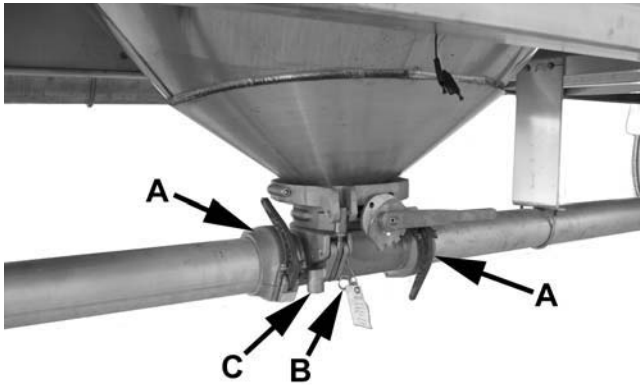
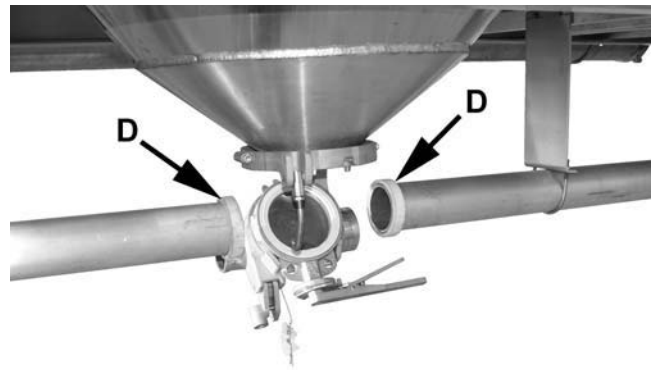

Figure 8-5 – Remove Discharge Valve
Figure 8-6 – Discharge Valve Seals
3. Open and remove clamps (A). See Figure 8-5. Slide seals (D) completely off the discharge valve and onto the discharge lines. See Figure 8-6.
4. Remove safety pin (B) from flange.
5. Insert a pipe into bracket (C) and pull on pipe to release discharge valve.